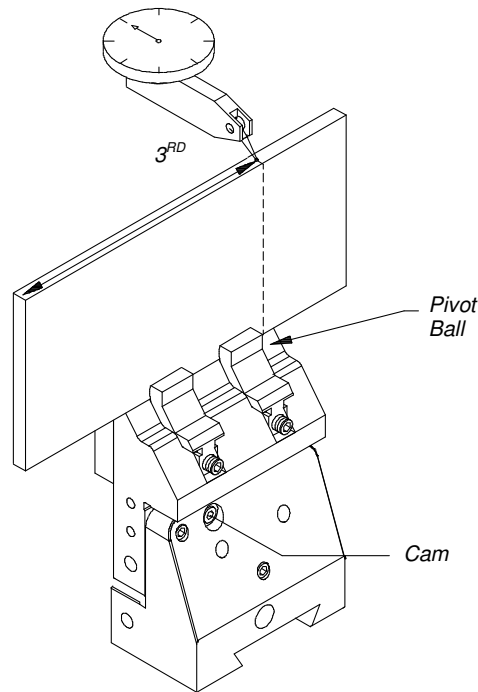

Figure 11
STEP 18. Set the assembly on the surface plate as shown in Fig. 11.
STEP 19. (A). Place the indicator ball on the work piece directly above the pivot ball of the TD01. **(B).** Zero the indicator. **(C).** Move the indicator ball to a position along the work piece in the third-axis direction. **(D).** Turn the cam until the indicator reading returns to the zero set position. The third-axis is true.